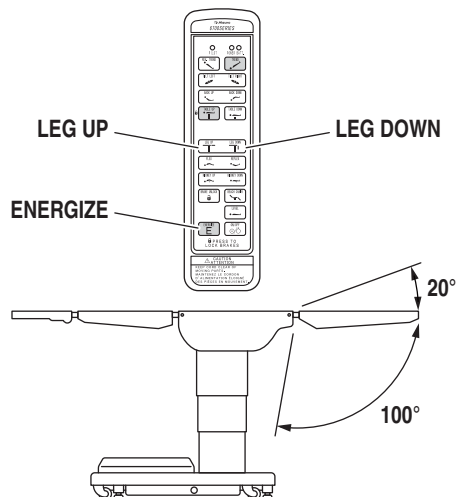

Figure 2-11. Leg Section Positioning
f. Leg Section To lower the leg section, press the ENERGIZE button and then the LEG DOWN button (figure 2-11). The leg section will go down to 100° below horizontal. To raise the leg section, press the ENERGIZE button and then the LEG UP button. The leg section will go up to 20° above horizontal.